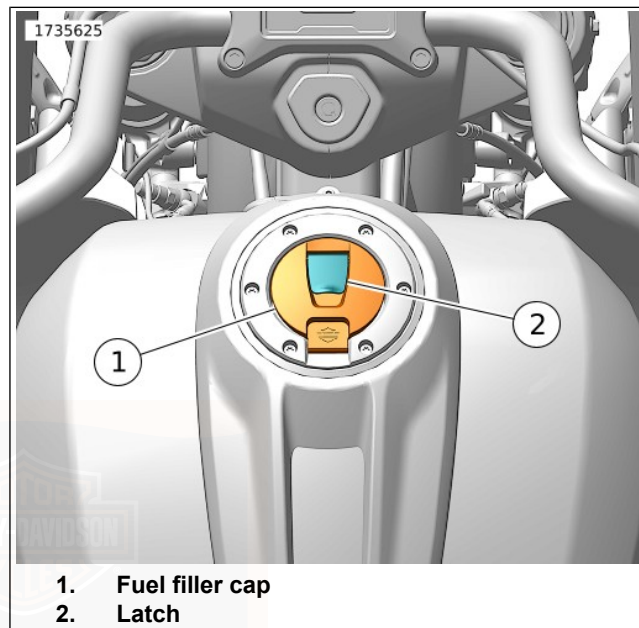

Figure 7. Installing/Removing Fuel Filler Cap: Flush Mount
Open: See Figure 7. Lift the latch (2) to open the fuel filler cap (1).